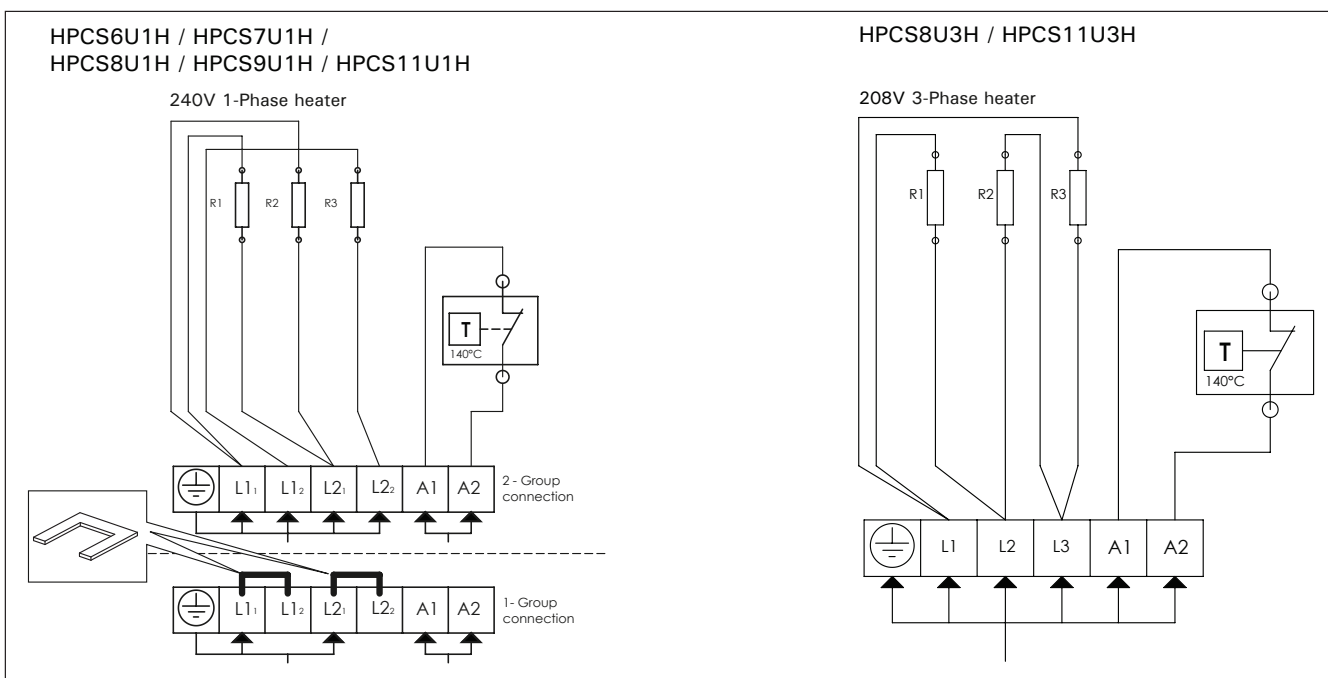

Figure 7. Electrical connections of the heater
2. See applicable wiring diagram for heater model (figure 7, see control unit manual for detailed instructions how to connect the heater and the control unit). Heater must be permanently installed by using seal tight conduit between the heater and the wall of the sauna room (pigtails or plugs are not allowed in the sauna room). Wiring must be done by a licensed electrician, who must follow wiring diagram provided and adhere to local codes. Use proper AWG rated wire size and use copper wire suitable for 194 °F (90 °C) within sauna walls. Use grounding terminals provided in sauna heater and control unit to properly ground the equipment as per NEC and local codes.